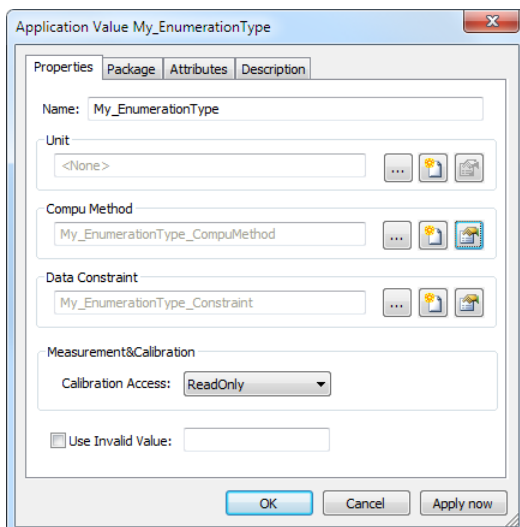

Figure 4-29 My_Enumeration type
- ▶ A new Value application data type is created: “My_EnumerationType” (see Figure 4-29):